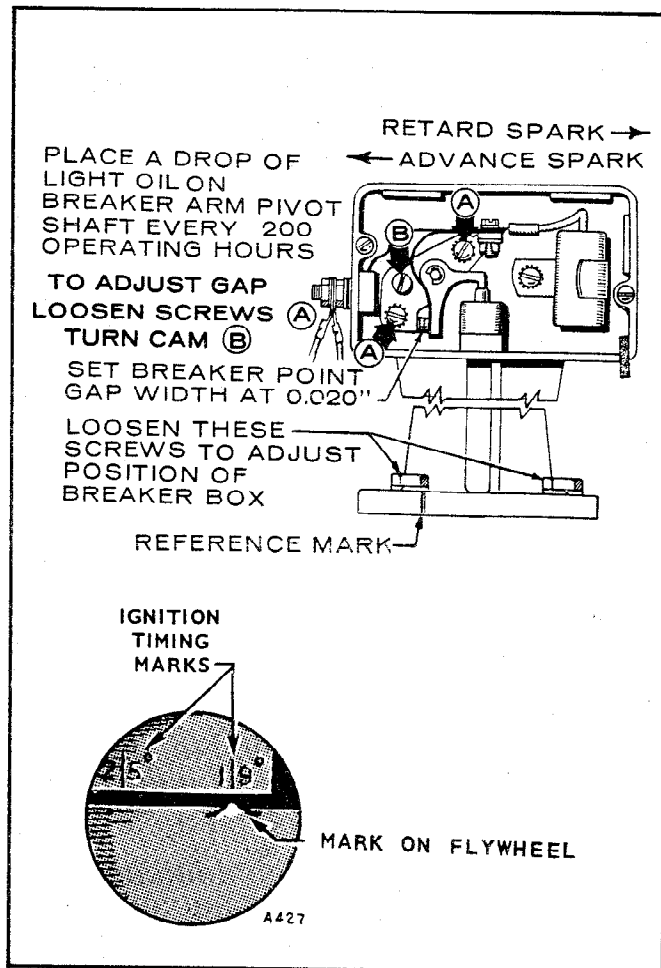

FIGURE 7. BREAKER BOX AND TIMING MARK
3. Turn flywheel in a clockwise direction approximately 1/4 turn after top center (TC).
4. To adjust gap refer to Figure 7. Loosen screws (A) and turn cam (B) until point gap measures .020" with a flat thickness gauge. Retighten screws (A) and recheck gap.